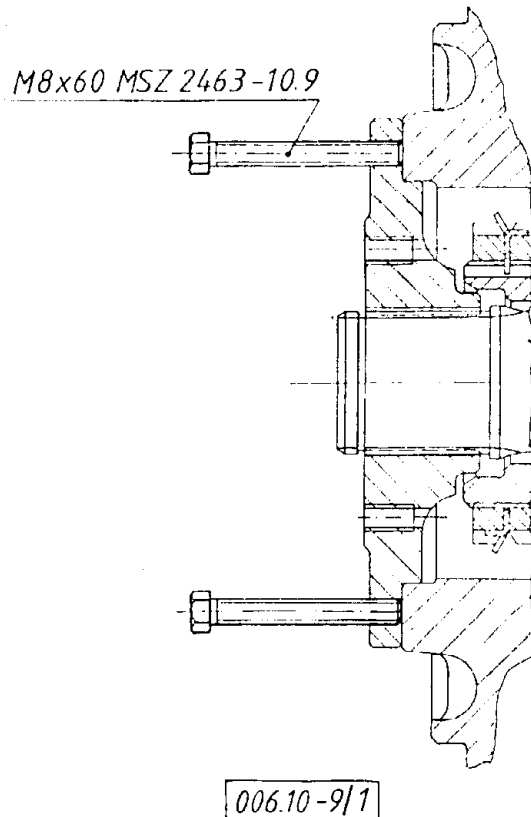

Fig. 1.: PULLING OFF THE TOOTHED HUB
By means of the bolts shown (Fig. 1.) pull off the toothed hub (23).
The shaft-end nuts can be removed by means of the tools shown (see Fig. 1.)